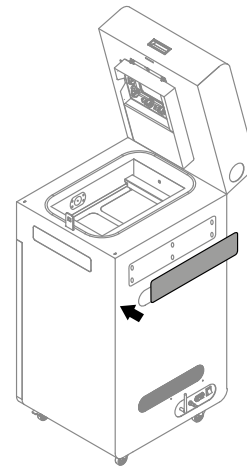

Fig. 13.84 Mounting back the access panel in the back of the printer.
27. Remove the phone and mount back the access panel in the back of the printer (fig. 13.84).